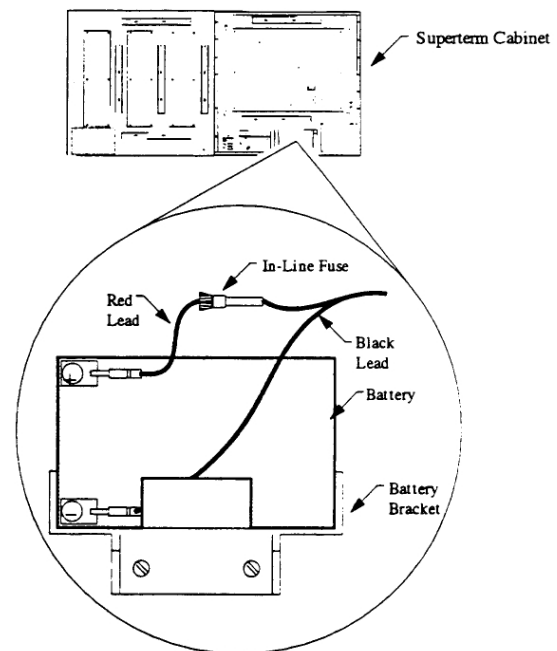

Figure 57 - Superterm Battery/In-Line Fuse Location
- 1) Open the Superterm cabinet and locate the backup battery secured to the lower center ledge of the cabinet (see Figure 57).
- 1) Open the Superterm cabinet and locate the backup battery secured to the lower center ledge of the Superterm cabinet (see Figure 57).